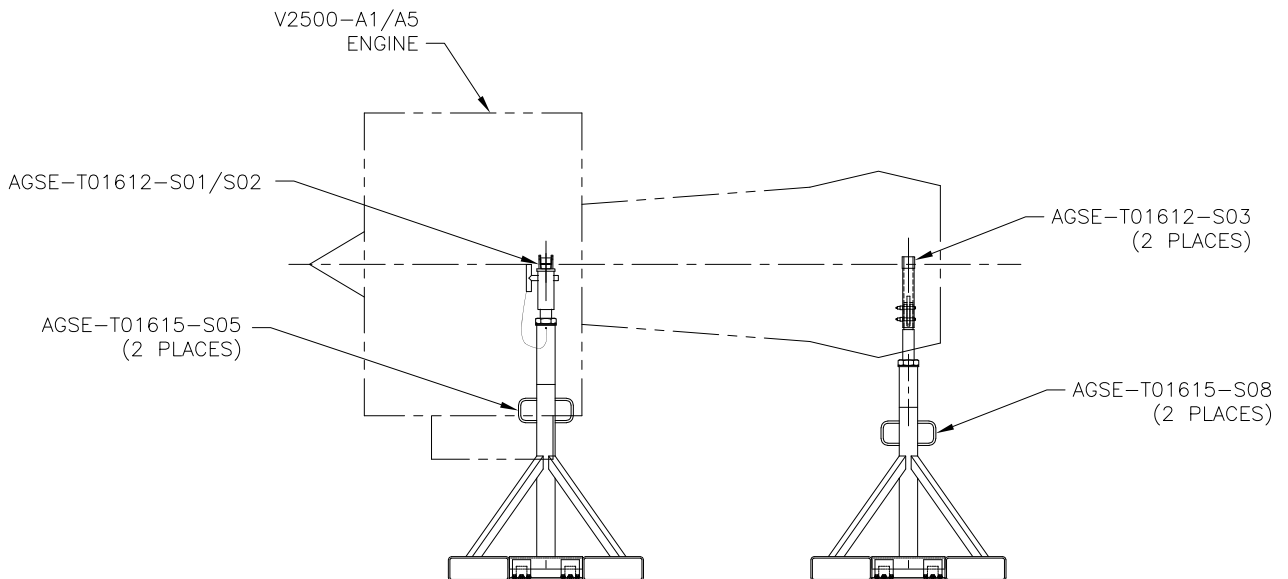

Figure 5.1-1
- 2) Install the applicable mounts onto engine (see Figures 5.1-1). Install any safety clips after pins are inserted.